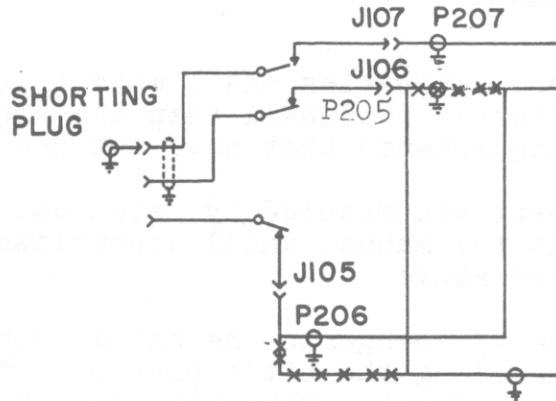

Figure 1. Correction to figure 89-1.
(1) Correct antenna input connections at upper left side of page as shown in figure 1 of this article.
(2) Delete "125 ohm Balanced" in J104 block at left of antenna input.
(3) Below antenna input wiring, write "Antenna input modified on shipboard installations by Field Change 5. Shipboard installations use J103."